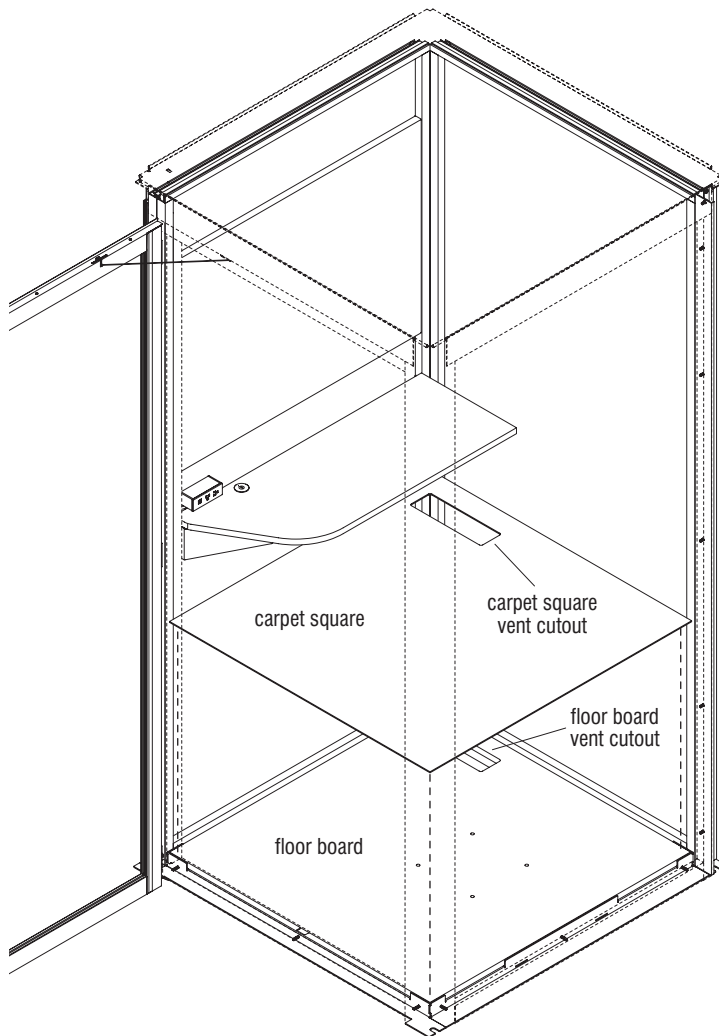
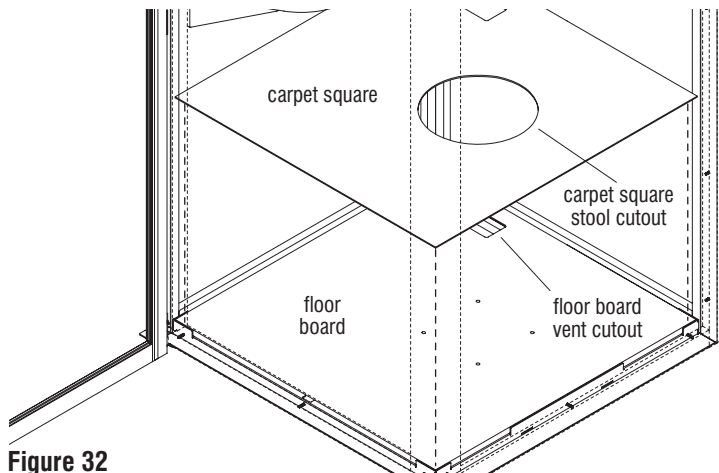

Figure 31
Figure 32
1. Locate the carpet square and the location of the vent cutout on the pod floor and carpet (Figure 31).
2. Inside the pod, align the vent cutout on the carpet square with the vent cutout on the floor board, and lay down into place (Figure 31). If a stool cutout is present on the carpet square, it will align over and expose the four stool mounting holes (Figure 32).